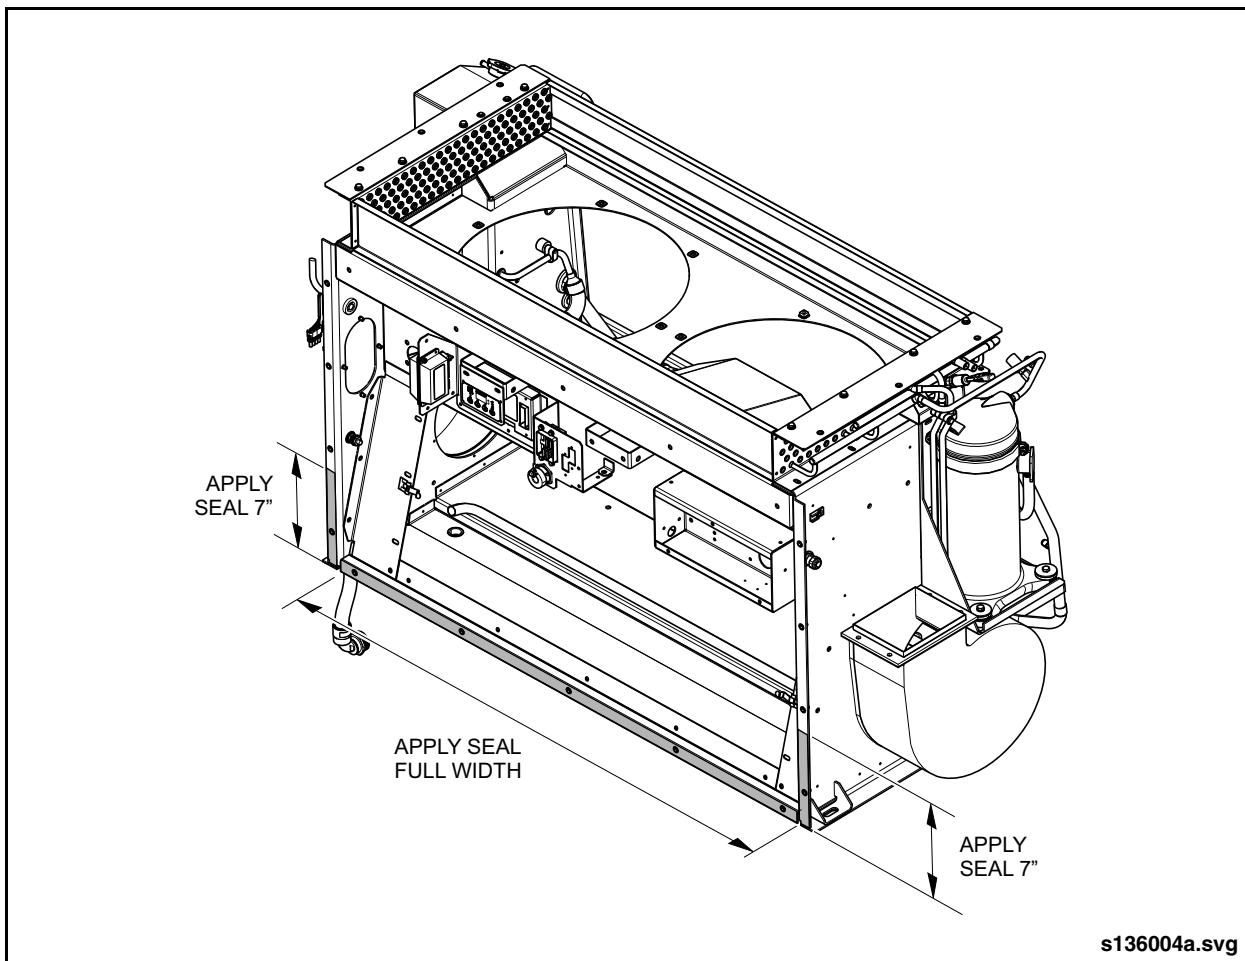

Fig. 10-7: Rubatex Seal Installation
5. Apply Rubatex seal 0.5" wide x 0.125" thick along the full width of the lower edge of the HVAC unit that will be in contact with the lower flanged close out panel. See "Fig. 10-7: Rubatex Seal Installation" on page 20.